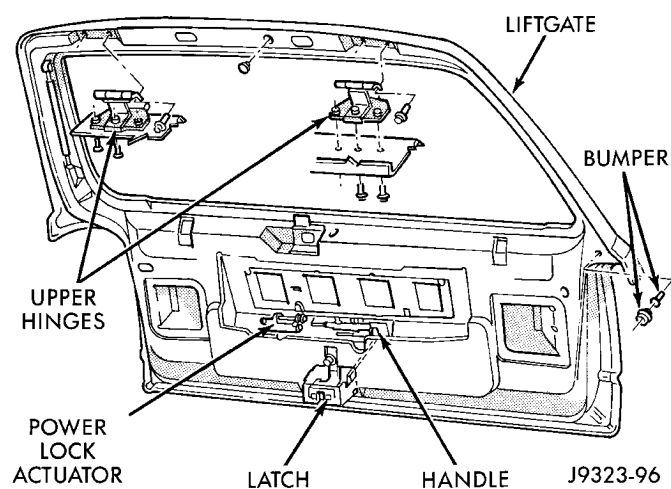

Fig. 62 Liftgate Components
- (1) Remove liftgate opening (headliner) upper trim molding.
- (2) Disconnect wiring harness to cargo lamp.
- (3) Remove hinge screws at roof panel (Fig. 62).
- (4) Remove hinge screws at liftgate.
- (5) Remove hinge from liftgate.